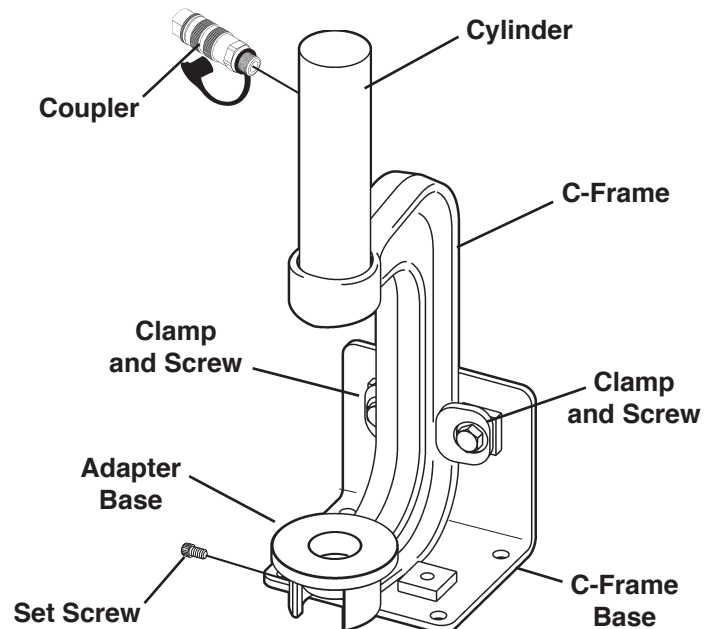

Figure 1
1. Assemble the C-frame base to the C-frame with the clamps and cap screws as shown in Figure 1. The base can be assembled to position the press either vertically or horizontally. The base can be mounted to a bench if desired.